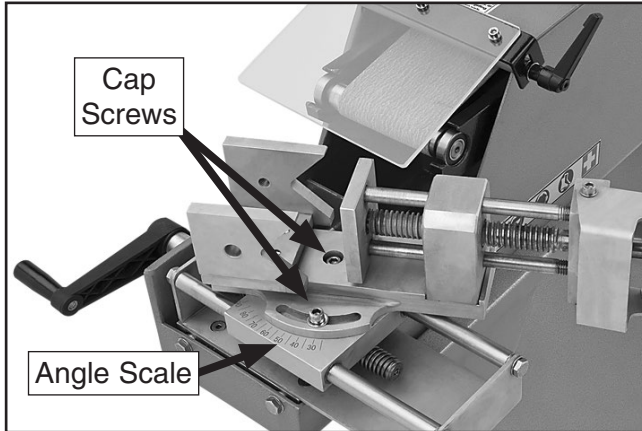

Figure 29. Vise angle controls.
- Loosen vise cap screws shown in **Figure 29**.